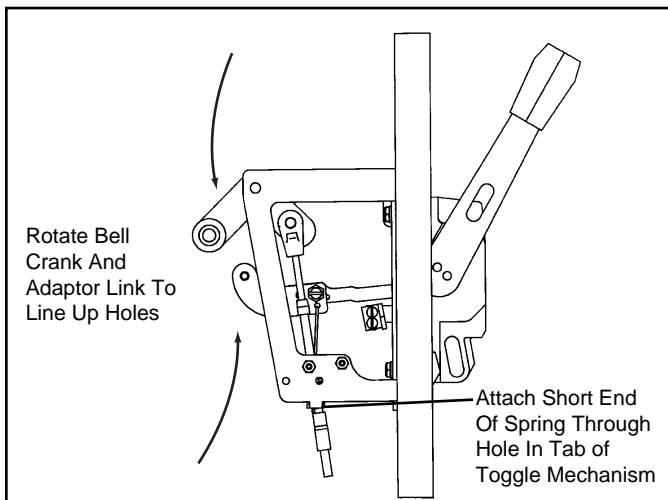

Figure 1-5 Assembly of Spring to Toggle Mechanism
5. Hook the shorter end of the spring into the tab on the lower portion of the toggle mechanism. See Figure 1-5.
6. Align adapter link with the bell crank. Attach bell crank to adapter link with shoulder bolt and nut. Fasten securely. Do not overtighten. See Figures 1-5 and 1-6.